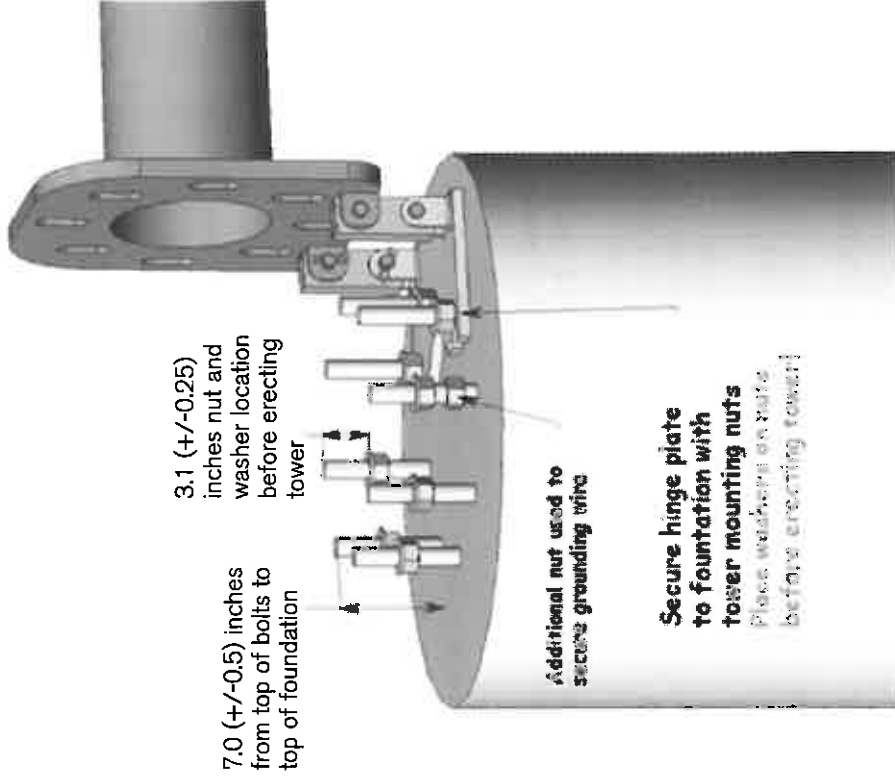

Fig. 9 Late Version hinge assembly and nut placement.
(refer to **Fig. 9** and follow instructions below)
- Attach the hinge plate to the tower base as shown in **Fig. 9** using the clevis pins supplied with the hinge plate kit.
- Using suitable lifting equipment, lift the tower (with hinge) and position hinge slots fully onto the foundation bolts between the top of the foundation and the foundation nuts. Refer to **Fig. 9**.
The tower, hinge plate and foundation should now appear as shown in **Fig. 9**.